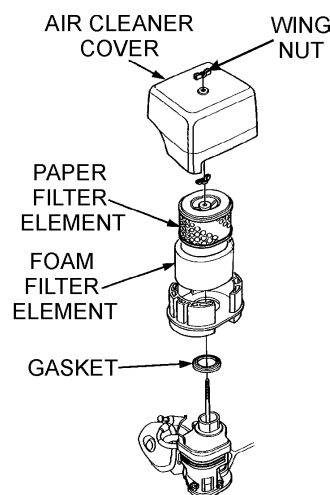

Figure 19. Engine Air Cleaner
1. Remove the air cleaner cover and foam filter element as shown in Figure 19.
2. Tap the paper filter element (Figure 19) several times on a hard surface to remove dirt, or blow compressed air [not exceeding 30 psi (207 kPa, 2.1 kgf/cm2)] through the filter element from the air cleaner case side. **NEVER** brush off dirt. Brushing will force dirt into the fibers. Replace the paper filter element if it is excessively dirty.